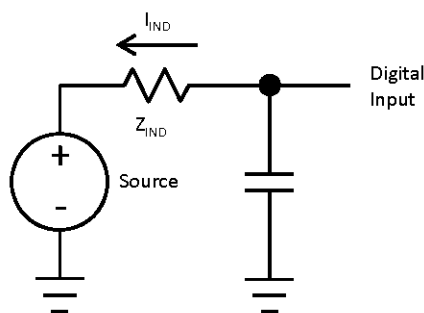

Figure 2. 5 V Tolerant Input IIND Parameter
5. Examples calculated using V_{IL} relation, V_{DD} , and $\max I_{IND}$: $Z_{IND} = V_{IL} / I_{IND}$. This is the impedance needed to pull a high signal to a level below V_{IL} due to leakage when $V_{IL} < V_{IN} < V_{DD}$. These examples assume signal source low = 0 V. See Figure 2.